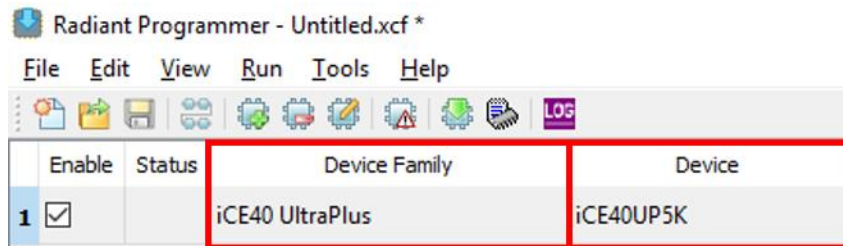

Figure 6.2. Device Family and Device Setting
4. Set **Device Family** to **iCE40 UltraPlus** and **Device** to **iCE40UP5K** as shown in Figure 6.2.